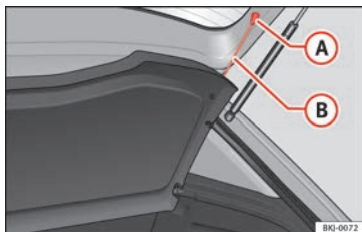

Fig. 160 In the luggage compartment: removing and installing the rear shelf.
- Detach the cord loops » **Fig. 160 B** from their hooks **A**.
- Hook the loops » **Fig. 160 B** to the rear lid.